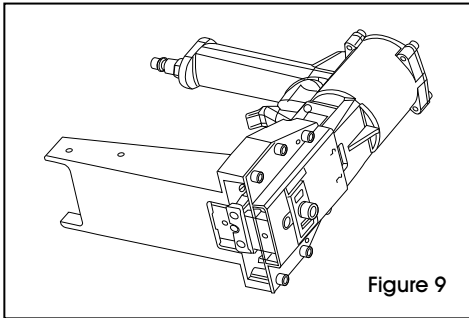

Figure 9
2. Remove magazine. (See Figure 9)